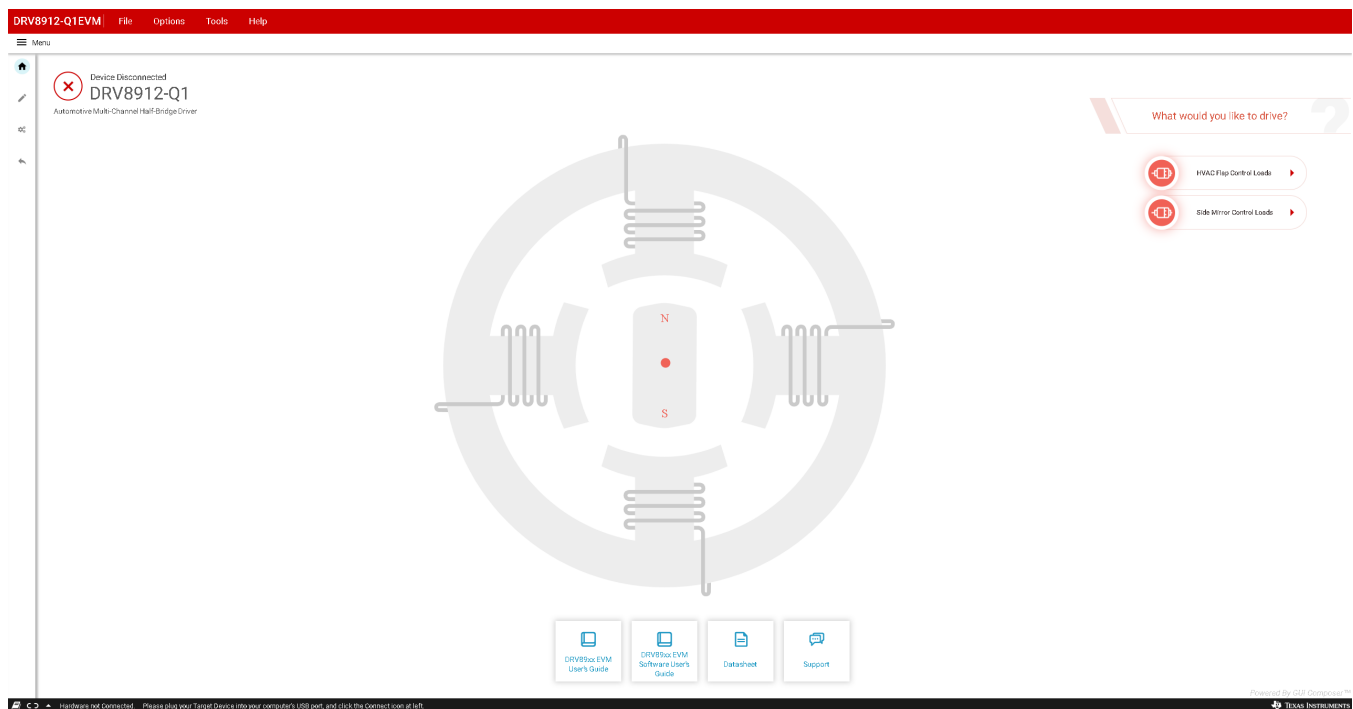

Figure 4. DRV89xx-Q1 EVM GUI (Interface after selecting DRV8912-Q1 device)
- Step 5. Figure 4. shows the GUI interface after selecting device.